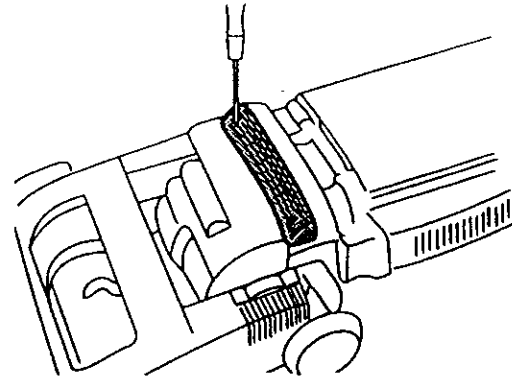

Fig. 17
1. Remove two screws and lift off lens (Fig. 17).